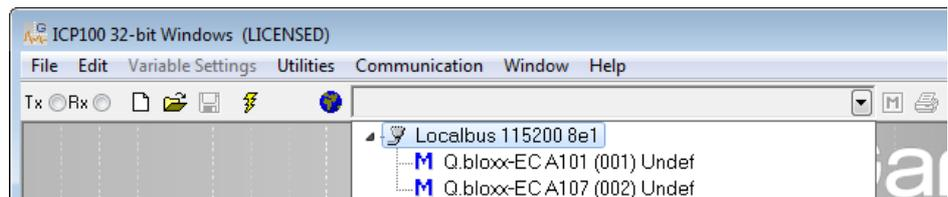

Fig. 6-2 Listing the modules found.
3. Start with **File > Bus scan** or click on  the interrogation of the modules connected to the bus coupler. The modules found are displayed (Fig. 6-2). If not all modules are displayed, check whether the module RUN-LED is lit. If not, either the module is not correctly connected to the previous module or it is defective.